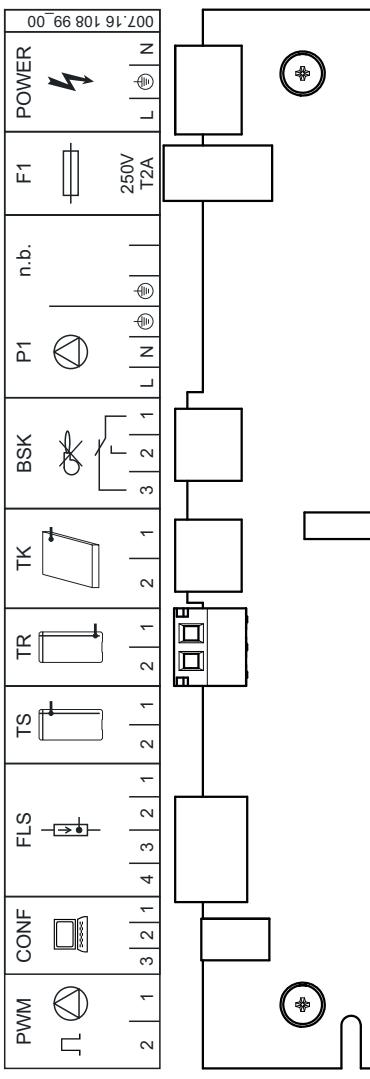

Fig. 4-23 Connection assignment
6. Insert the cable of the FlowSensor on the FlowSensor (c) and at the edge of the board of the Solaris R4 controller, at the position FLS (4-pin, see fig. 4-23).
4. Insert the plug at the edge of the board on the controller, at position TK (2-pin, see fig. 4-23).